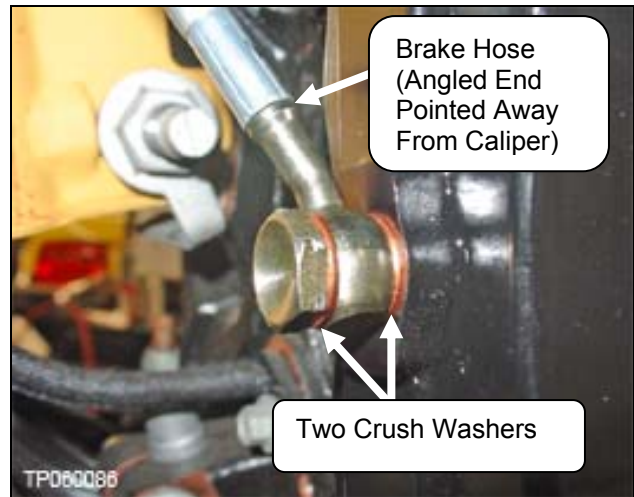

Figure 3
8. Confirm the brake hose banjo fitting has two crush washers installed on it and the angled end of the hose assembly is pointed away from the caliper (see Figure 3).